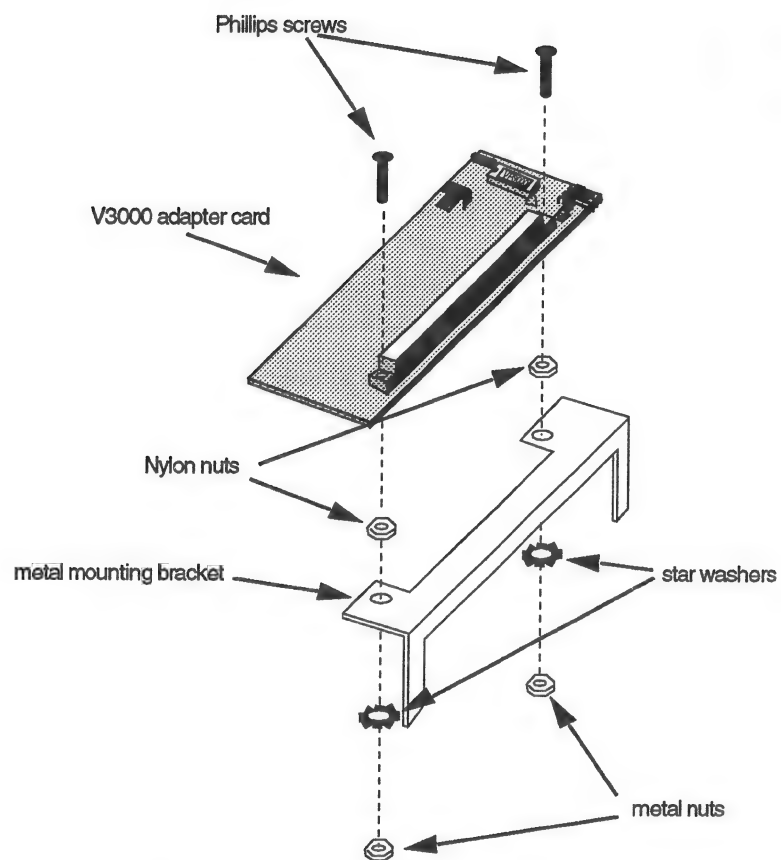

Figure 3-8 Adapter card and bracket assembly
The V3000 adapter card is usually shipped from TOTAL SYSTEMS with the angled metal mounting bracket pre-assembled as shown in Figure 3-8 (on the next page). However, if you have purchased these components separately, fit them together now.
- ☐ 1. Position the V3000 adapter card between the SE expansion bracket and the rear of the disk drive area, so that its 64-pin ribbon cable points downwards towards the lower chassis, as shown in Figure 3-8.
- ☐ 3. Fasten the V3000 adapter card assembly and the output plate to the SE expansion bracket using the screws and nuts provided, as shown in Figure 3-8.